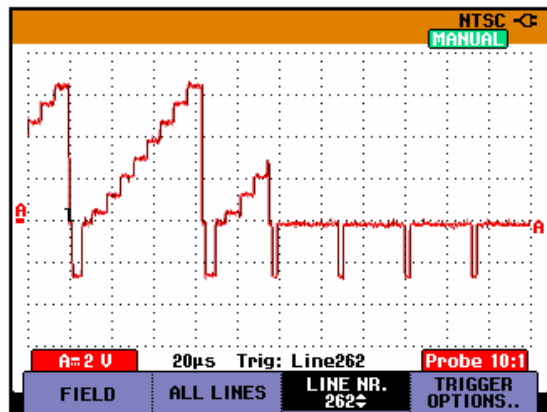

Figure 4-12. Trace for NTSC line 262
- ⇒ line number 262 for NTSC, see Figure 4-12.